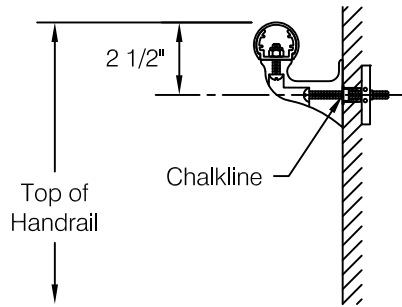

fig 1
Step 1: Determine top of handrail height and snap a chalk line 2 1/2" below for centerline of mounting hardware, see **fig 1**.